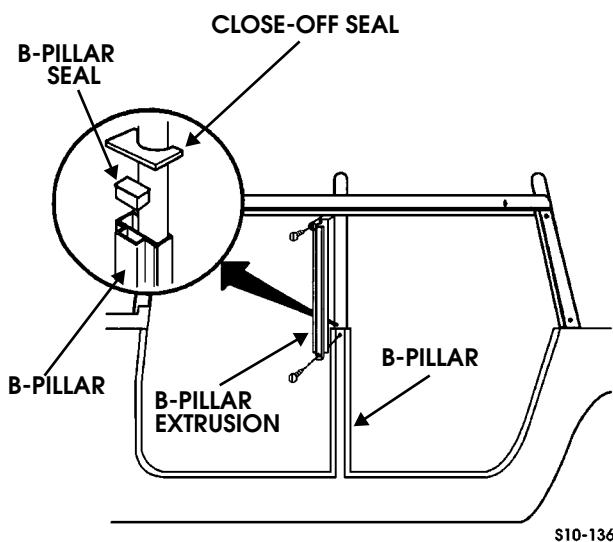

Figure 10-138: B-Pillar Extrusion Removal
11. Remove screw, washer, and self-tapping screw securing B-pillar extrusion to B-pillar and remove B-pillar extrusion (Figure 10-138).